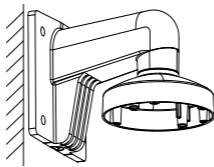

Figure 2-12 Install the Pendent Cap
1. Fix the pendent cap bracket on the wall, as shown in Figure 2-12.